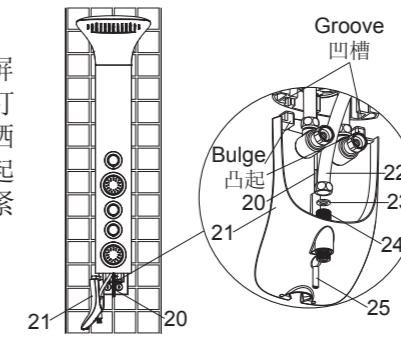

Fig.8
As Fig.8 shown, screw the screw(20) into the screw hole below the shower panel. Slide the shower bracket(21) onto the screw(20). Connect the hose (22) with the washer(23) to the inlet of the shower bracket. Install the shower bracket with the bulges of its being situated into the grooves of the shower panel. Tighten the nut(25) onto the screw(20) to secure the shower bracket.